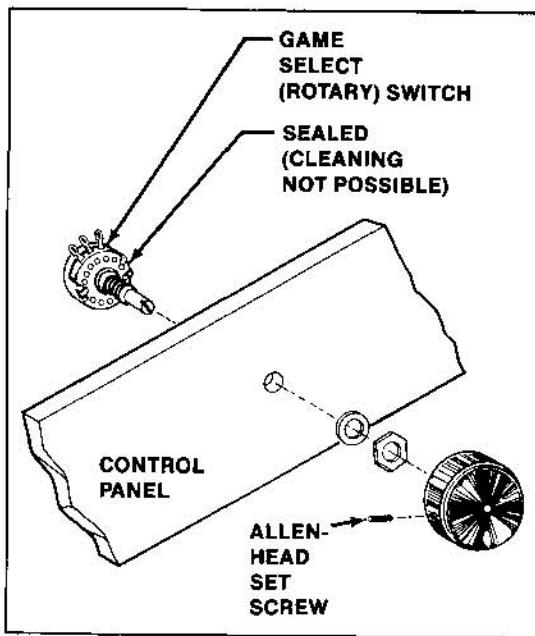

Figure 4-15 Game Select Switch Removal
K. GAME SELECT SWITCH REMOVAL (See Figure 4-15)
If you need to replace this three-position rotary switch, follow the procedure shown in Figure 4-15.